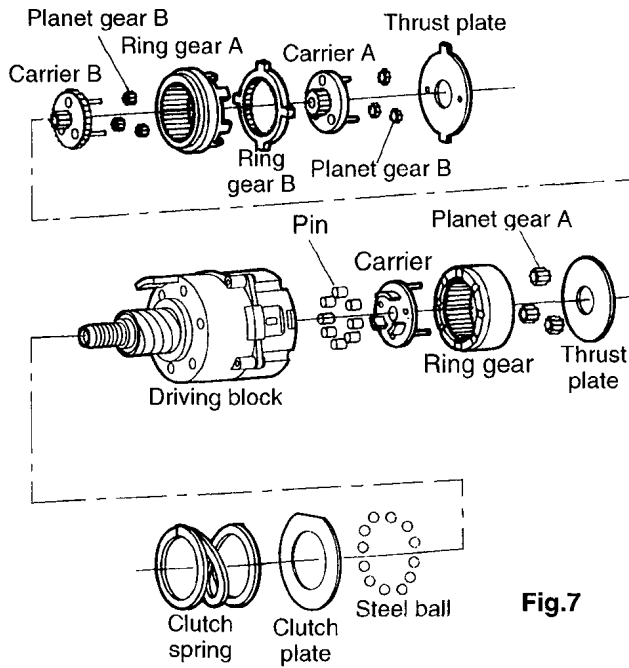

Fig.7
2. The internal parts of gear box block can be removed one after another. (See Fig. 7)
5. Assemble the other parts in reverse order as shown in the Fig. 7.